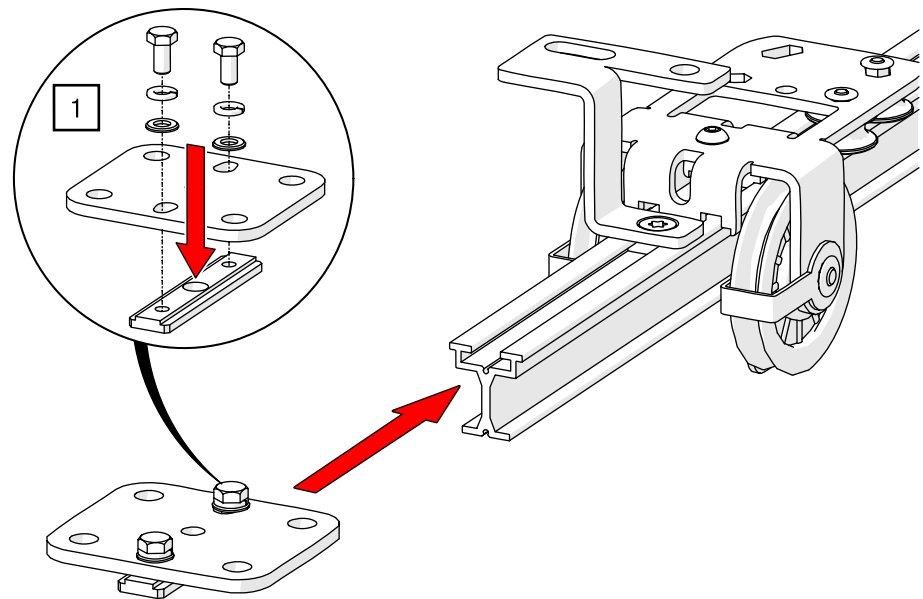

Fig. 116: Manual drive ROPE-DRIVE – Pre-assemble mounting plate
1. Loosely pre-assemble the mounting plate with two M8 hexagon head screws and the appropriate washers and spring washers and slide it onto the track profile directly upstage of the head pulley (see Fig. 116).